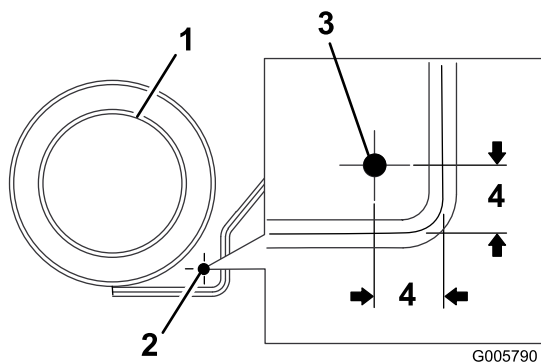

Figure 13
3. Measure 6.4 cm (2-1/2 inches) from the ridge edges as shown in Figure 13. Mark the tank at that spot.
4. Drill a 3.5 cm (1-3/8 inch) diameter hole in the tank at the spot marked previously (Figure 13).